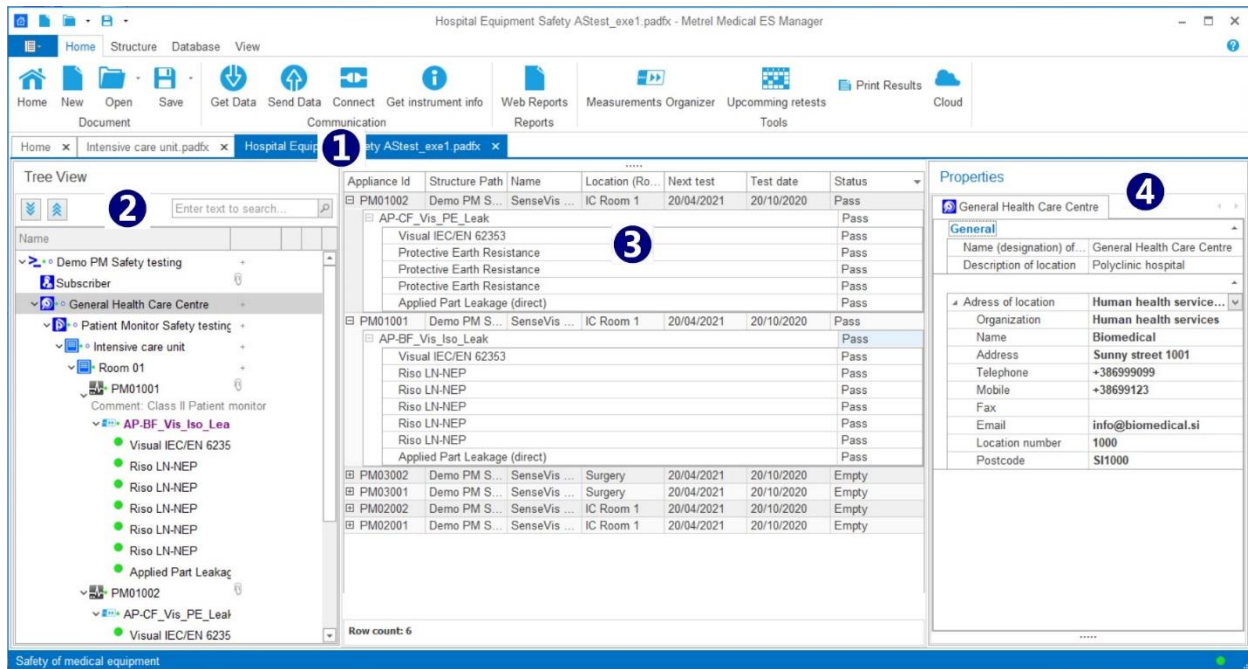

Figure 6.13: User workspace
User workspace is presented on the **Figure 6.13** below. Multiple Data structure files can be opened at the same time. Their names are listed within document tab strip (❶), currently active data structure file tab is highlighted.